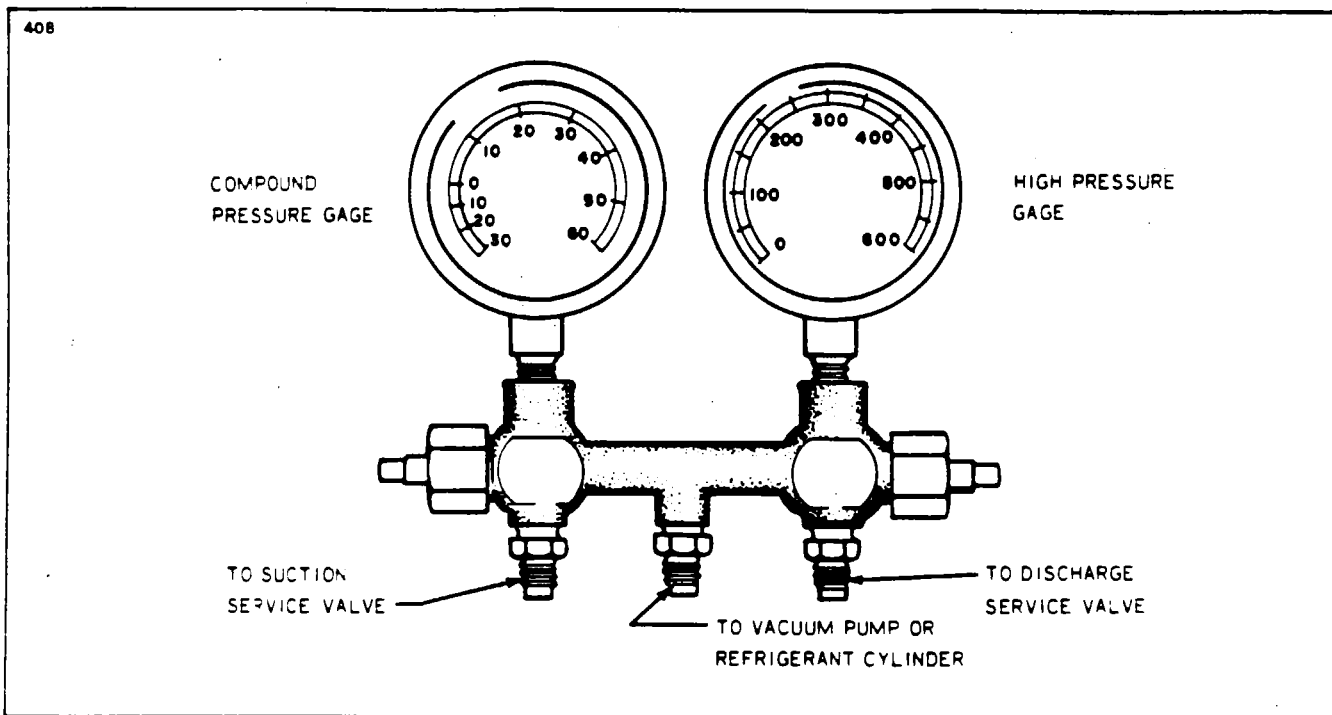

Figure 21-5. Test Gauge and Manifold Set
The proper testing and diagnosis of the air conditioning system require that a manifold gauge set be attached into the system. This set consists of two gauges mounted to a manifold. One gauge is a high pressure gauge used in the discharge side of the system. The other is a low pressure gauge used in the suction side of the system. The manifold is a device having fittings for both gauges and connection hoses with provisions for controlling the flow of refrigerant through the manifold. (See Figures 21-5 and 21-6.)
Cracking the hand valve, in the counterclockwise direction, opens the system to the middle service port of the manifold set. This is desirable only when it is necessary to let refrigerant out or into the system. Refer to Figures 21-5 or 21-6.
3. The high and low manifold hand valves should be in the closed position. (Refer to Figures 21-5 and 21-6.)